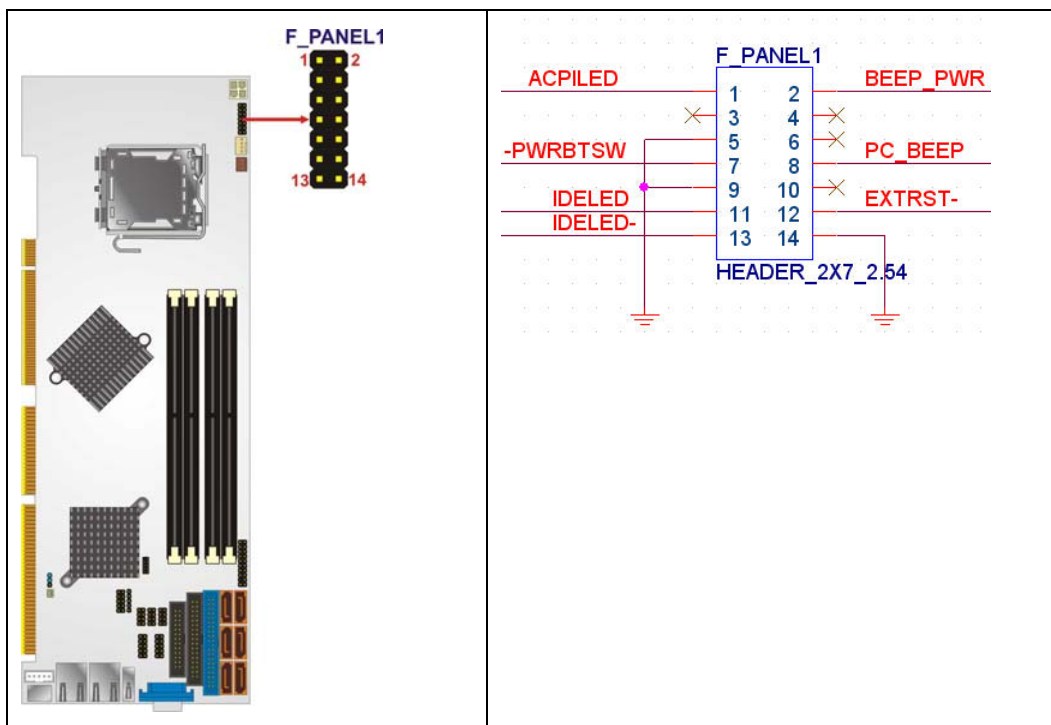

Figure 4-7: Front Panel Connector Pinout Locations (14-pin)
**CN Location:** See **Figure 4-7**